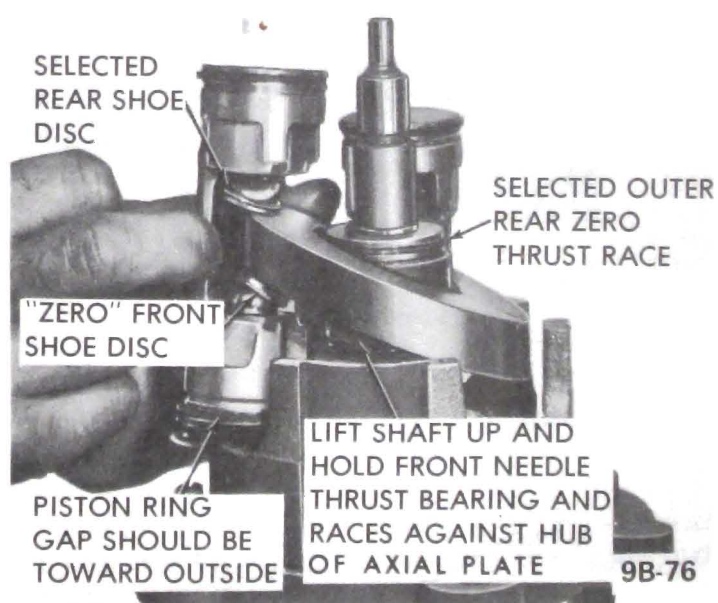

Figure 9B-88 Installing Piston Assembly in Front Cylinder Half
7. Liberally lubricate with No. 525 viscosity oil, suction pass cover and lips of suction passage in body of cylinder assembly, and reassemble suction pass cover over suction passage (see Figure 9B-93).